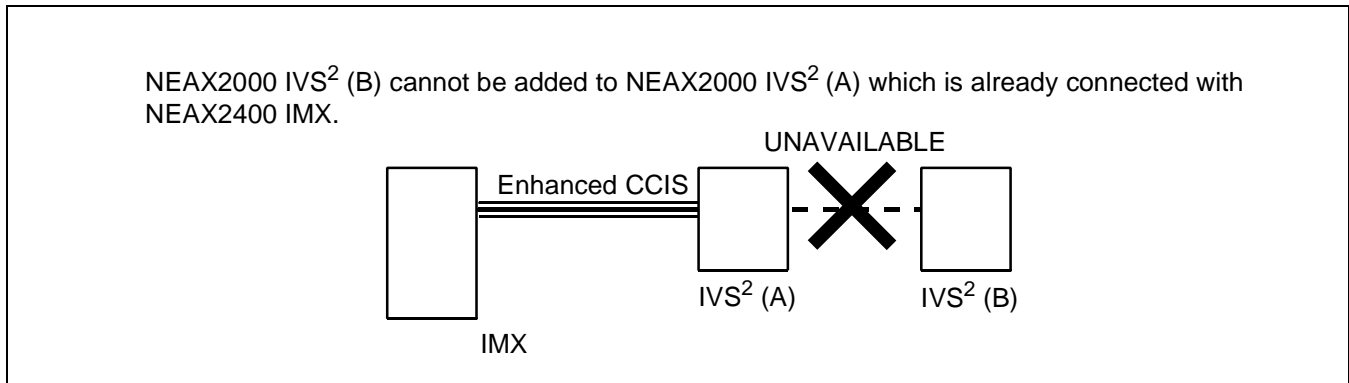

Figure 8-2 NEAX2000 IVS² to NEAX2400 IMX Connection
1. All IVS² systems must be directly connected to an IMX. See Figure 8-2.